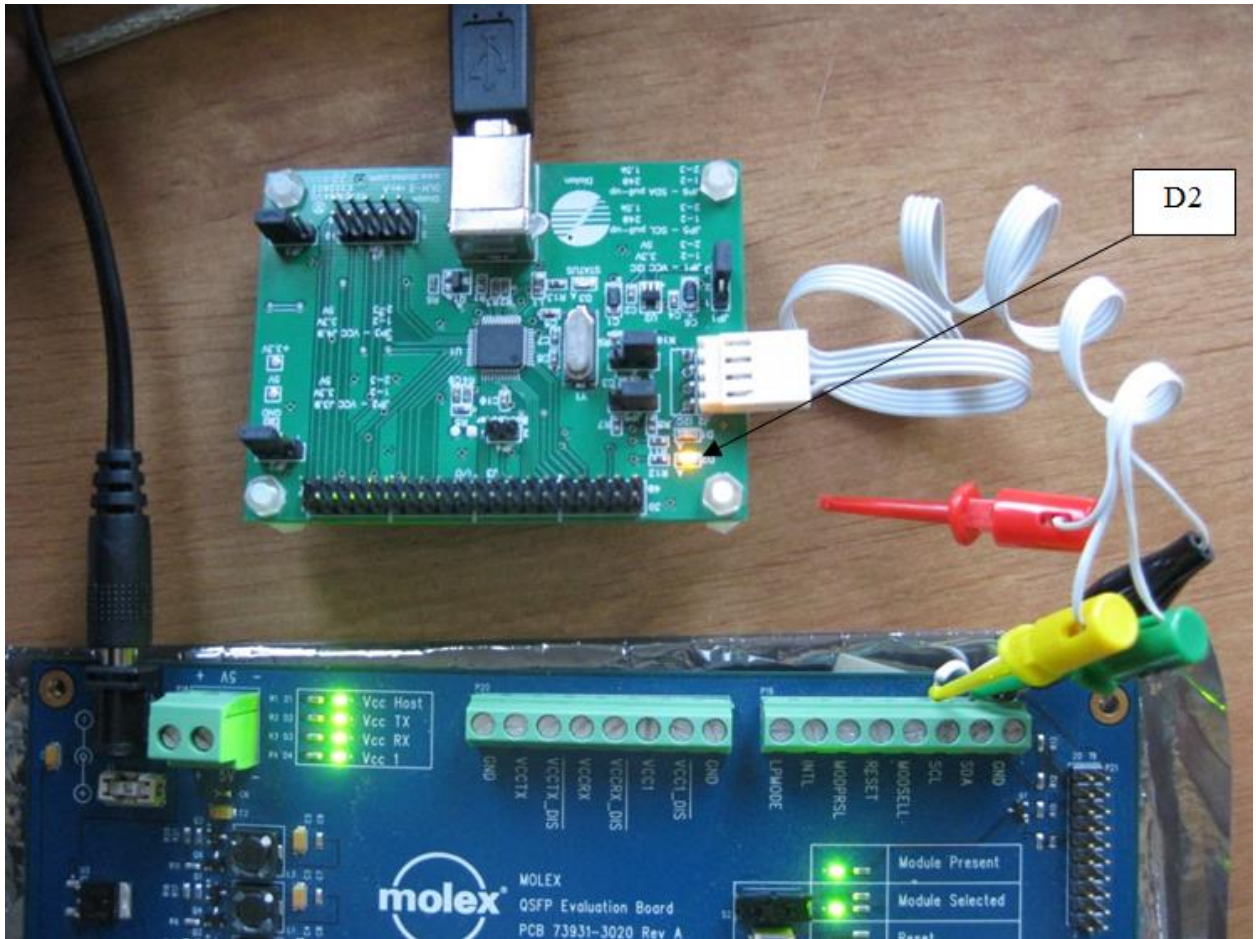

Figure 1
10. Once the update is completed, the status light at D2 (pointed to by arrow in **Figure 1**) should be flashing. This means that your computer is able to discover the Diolan adapter.
You must connect the mini-hooks and the mini-crocodile connectors to the correct terminal on the board. Connect the SDA mini-hook to the SDA terminal, the SCL mini-hook to the SCL terminal. The black mini-crocodile connector is the ground and must be connected to the ground terminal on the board. Please see the picture in **Figure 1**.